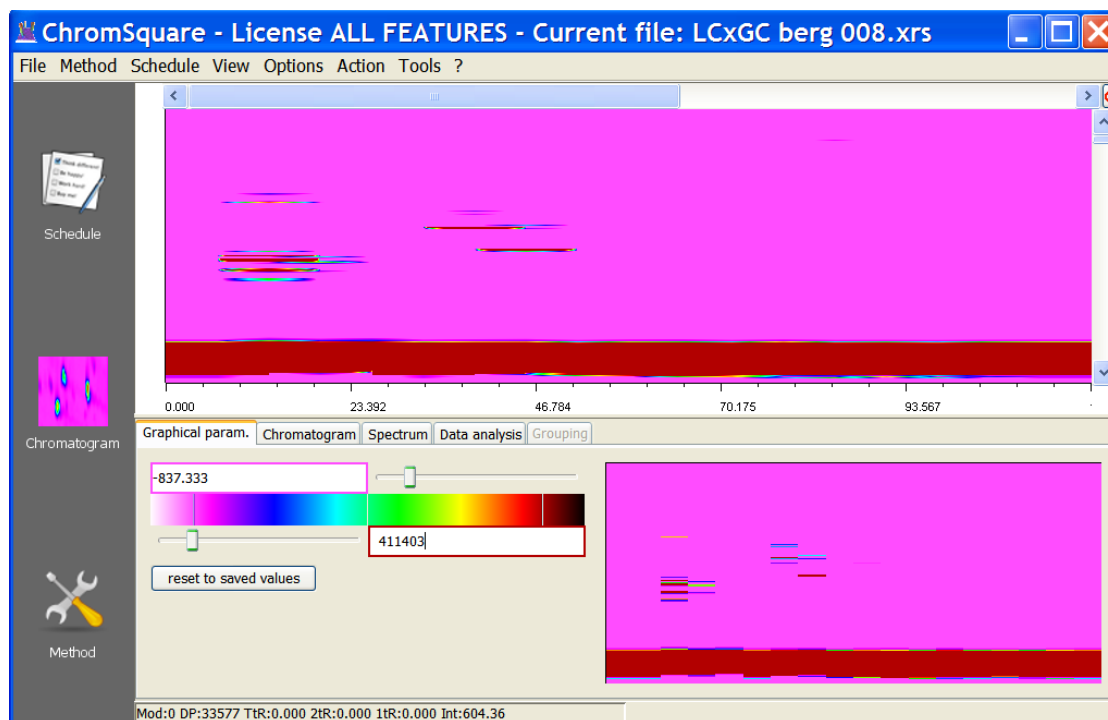

Figure 11.23: The resulting assembled chromatogram
7. At the end of the procedure, the resulting assembled chromatogram is displayed (see Figure 11.23). The software will treat this chromatogram like any other chromatogram, obtained in the traditional way. The user should only consider that in this case the number of modulations is generally much lower than in the other cases: this could cause some limitations at zoom level.